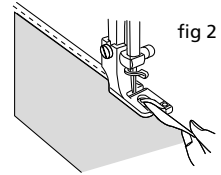

fig 2
- Continue sewing. While sewing, fold the fabric slightly and hold it to the left. Guide evenly. (fig 2)